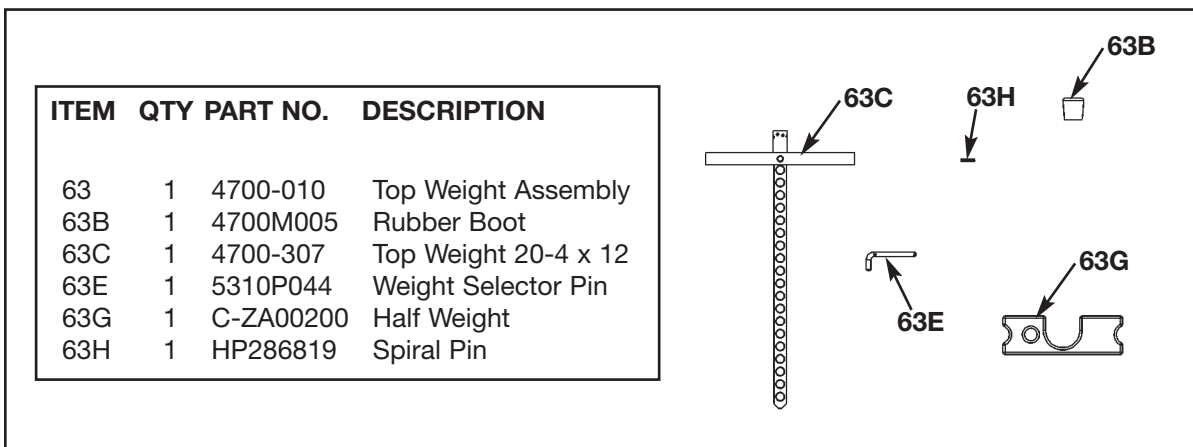

Figure 14
- C.** Locate the top weight package and verify the contents. See Figure 14.